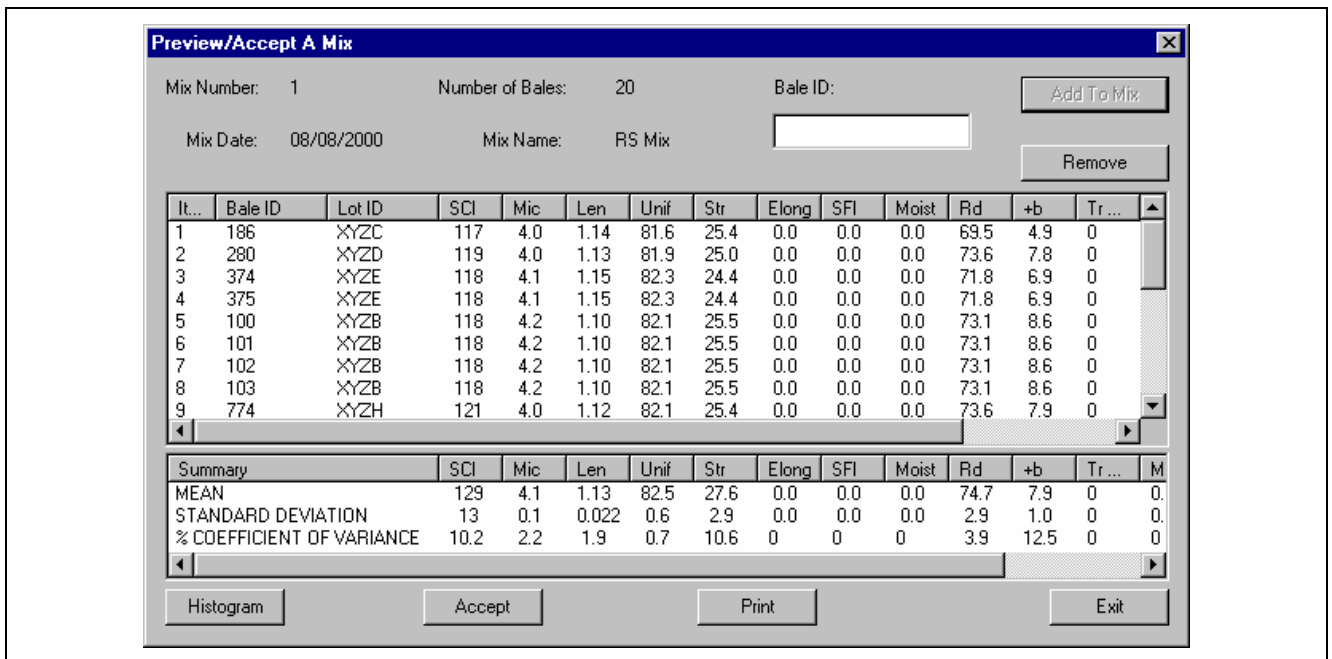

Fig. 6-92 Preview / Accept A Mix Screen III
27.7 Complete the Preview/Accept A Mix window by entering Bale ID numbers for the remaining 19 bales (Fig. 6-92).